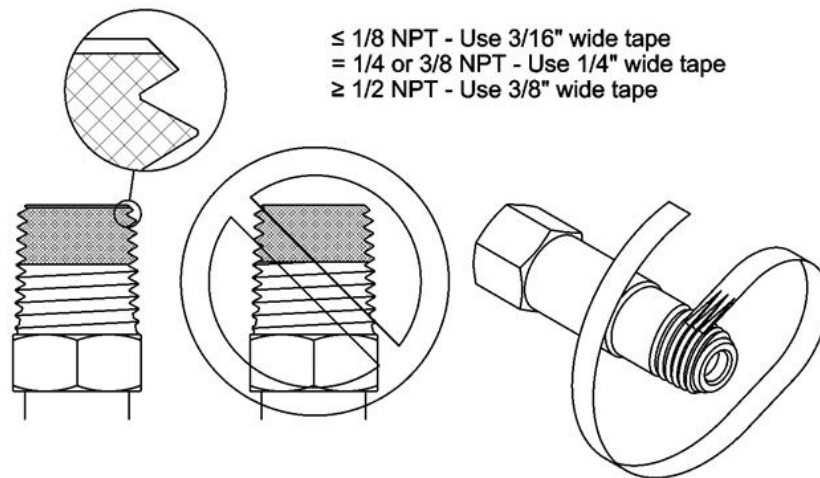

Figure 6 - Pictorial View of Tape Seal
- c. Be sure that all fittings are secure and leak tight. PTFE tape must be used on pipe threads. See Figure 6.
Use an open-end wrench, not a pipe wrench, to install accessories to the AutoSwitch system. **ALWAYS hold the bulkhead fitting with a wrench when installing the accessories to the AutoSwitch system. Do not allow the bulkhead fitting to turn; otherwise, connections inside the box may be loosened.** NPT connections require the use of PTFE tape on the threads to make a gas tight seal. (See Figure 6.) CONCOA uses PTFE tape on all of its NPT connections. Follow these rules when using PTFE tape.
- Start the PTFE tape on the first thread leaving a slight section of the chamfer exposed as shown in Fig. 6. Make sure the tape does not overlap the end of the fitting.
1. Tape the male NPT connections on the manifold connector using the procedure outlined in Figure 6.
1. Tape the male NPT connections on the manifold connector and diaphragm valve using the procedure outlined in Figure 6.
1. Tape the male NPT connections on the manifold connector, diaphragm valve, and tee purge using the procedure outlined in Figure 6.
1. Tape the male NPT connections on the pigtail assembly and street elbow assembly using the procedure outlined in Figure 6.
1. Tape the male NPT connections on the pigtail assembly and diaphragm valve assembly using the procedure outlined in Figure 6.
1. Tape the male NPT connections on the pigtail assembly, diaphragm valve assembly, and tee-purge assembly using the procedure outlined in Figure 6.